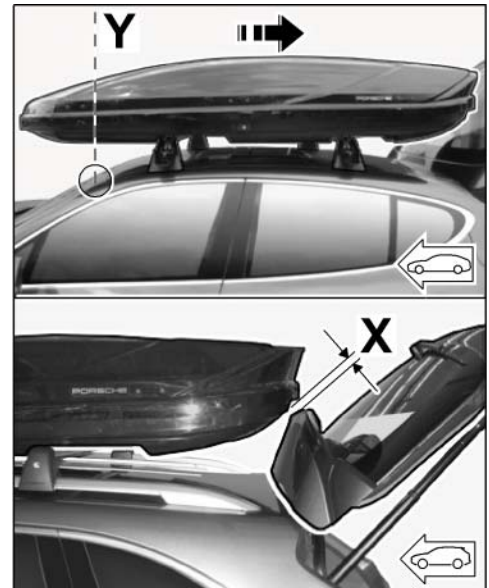

Figure 8
4.8.3 Carefully open the rear lid/tailgate of the vehicle and adjust gap "X" with respect to the roof box (520 liter) (⇒ *Figure 8*).